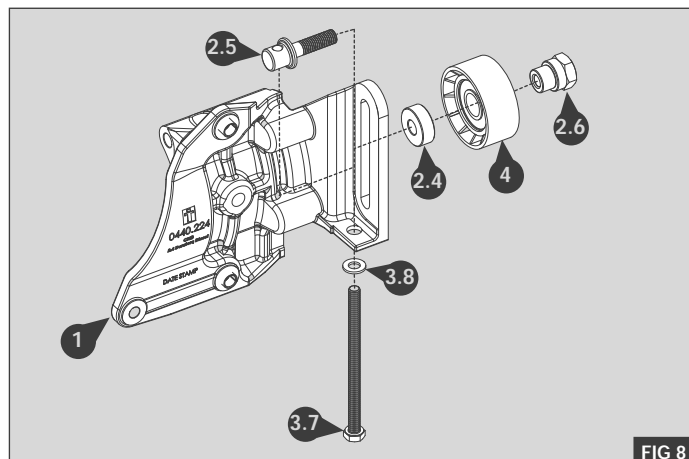

FIG 8
5. Lock the starter ring and tighten the bolts  in the following sequence. See Fig 8: